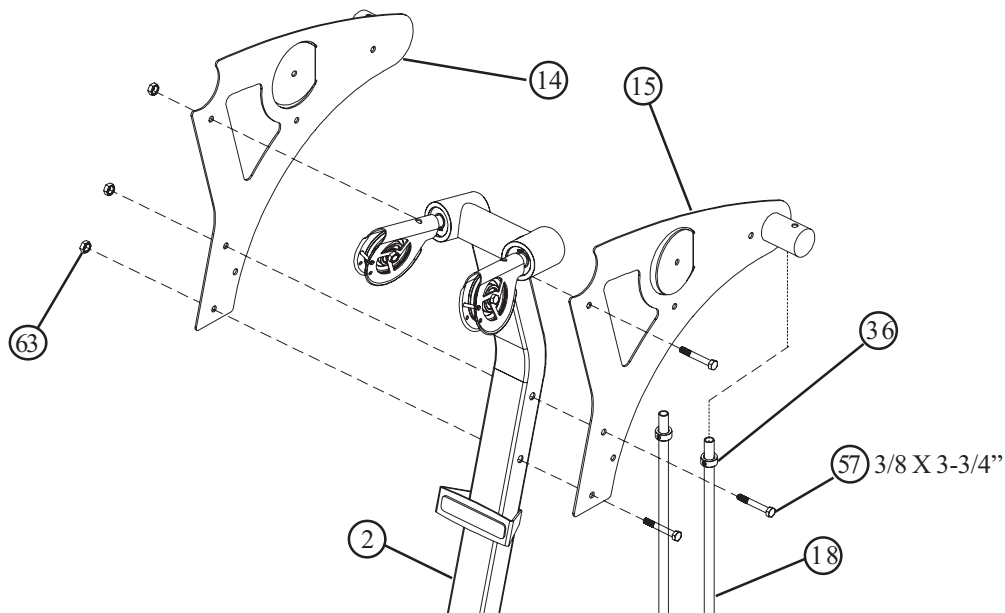

FIGURE 6
- A. Swing the GUIDE RODS (18) into the guide rod bushings in the RIGHT BOOM PLATE (14) and LEFT BOOM PLATE (15) as shown in Figure 6.
- B. Loosely assemble the RIGHT BOOM PLATE (14) and LEFT BOOM PLATE (15) to the UPRIGHT (2) using three 3/8 x 3-3/4" BOLTS (57) and three 3/8" SILVER LOCK NUTS (63). See Figure 6.
- D. Slide the SHAFT COLLARS (36) to the top of the GUIDE RODS (18) and tighten the set screws as shown in Figure 6.